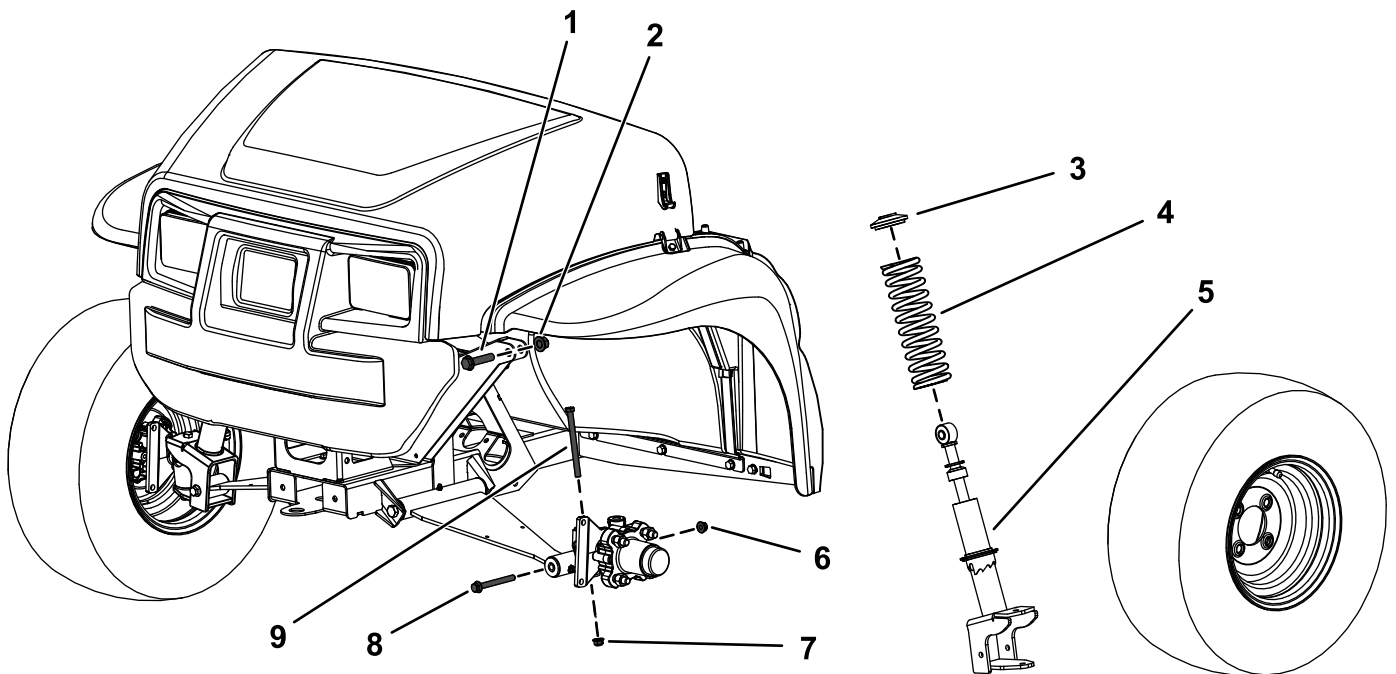

Figure 2
3. Remove the hex-head bolt (3/8 x 4-3/4 inches) and flange nut (3/8 inch) from the spindle (Figure 2).
4. Remove the hex-head bolt (3/8 x 3-1/2 inches) and flange nut (3/8 inch) from the control arm (Figure 2).
5. Remove the hex-head bolt (1/2 x 2-1/4 inches) and locknut (1/2 inch) securing the strut assembly to the upper frame (Figure 2).
6. Remove the strut assembly (Figure 2).
3. Remove the spring from the strut assembly (Figure 2).
4. Install the new spring over the existing strut assembly (Figure 2).
2. Secure the upper portion of the strut assembly to the frame using the upper, hex-head bolt (1/2 x 2-1/4 inches) and locknut (1/2 inch) as shown in Figure 2.
4. Install the hex-head bolt (3/8 x 4-3/4 inches) and flange nut (3/8 inch) to the spindle (Figure 2).
6. Secure the lower portion of the strut assembly to the control arm using the hex-head bolt (3/8 x 3-1/2 inches) and flange nut (3/8 inch) as shown in Figure 2.